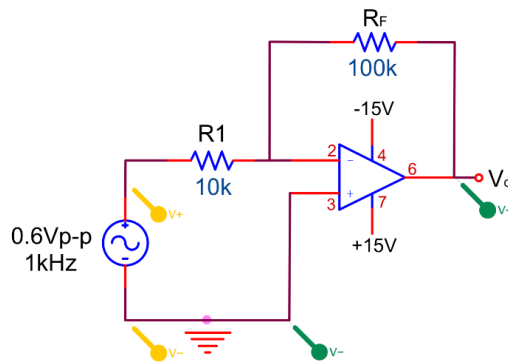

Figure 9.7
3. Construct the circuit in Figure 9.7. Record v_i and v_o ; compare it to the value calculated in the pre-lab. What is the phase difference between V_i and V_o ?
1. Simulate Figure 9.7